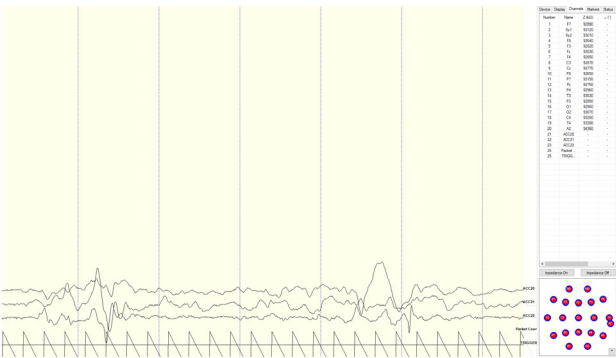

fig. 3
- No traces appear and impedance values are high. (fig. 3)